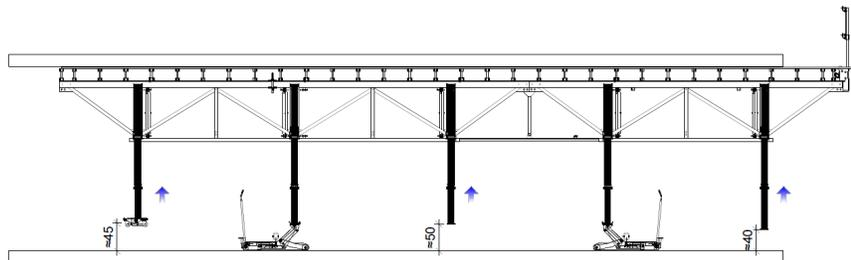

Fig. A3.03
3. The first props are spindled by approx. 40 cm, the 'swivel castor' props are spindled by approx. 45 cm, and the remaining props by approx. 50 cm. Move swivel castors under the 'swivel castor' props (refer to 'Lifting Clamp Locations' for castor locations). (Fig. A3.03)